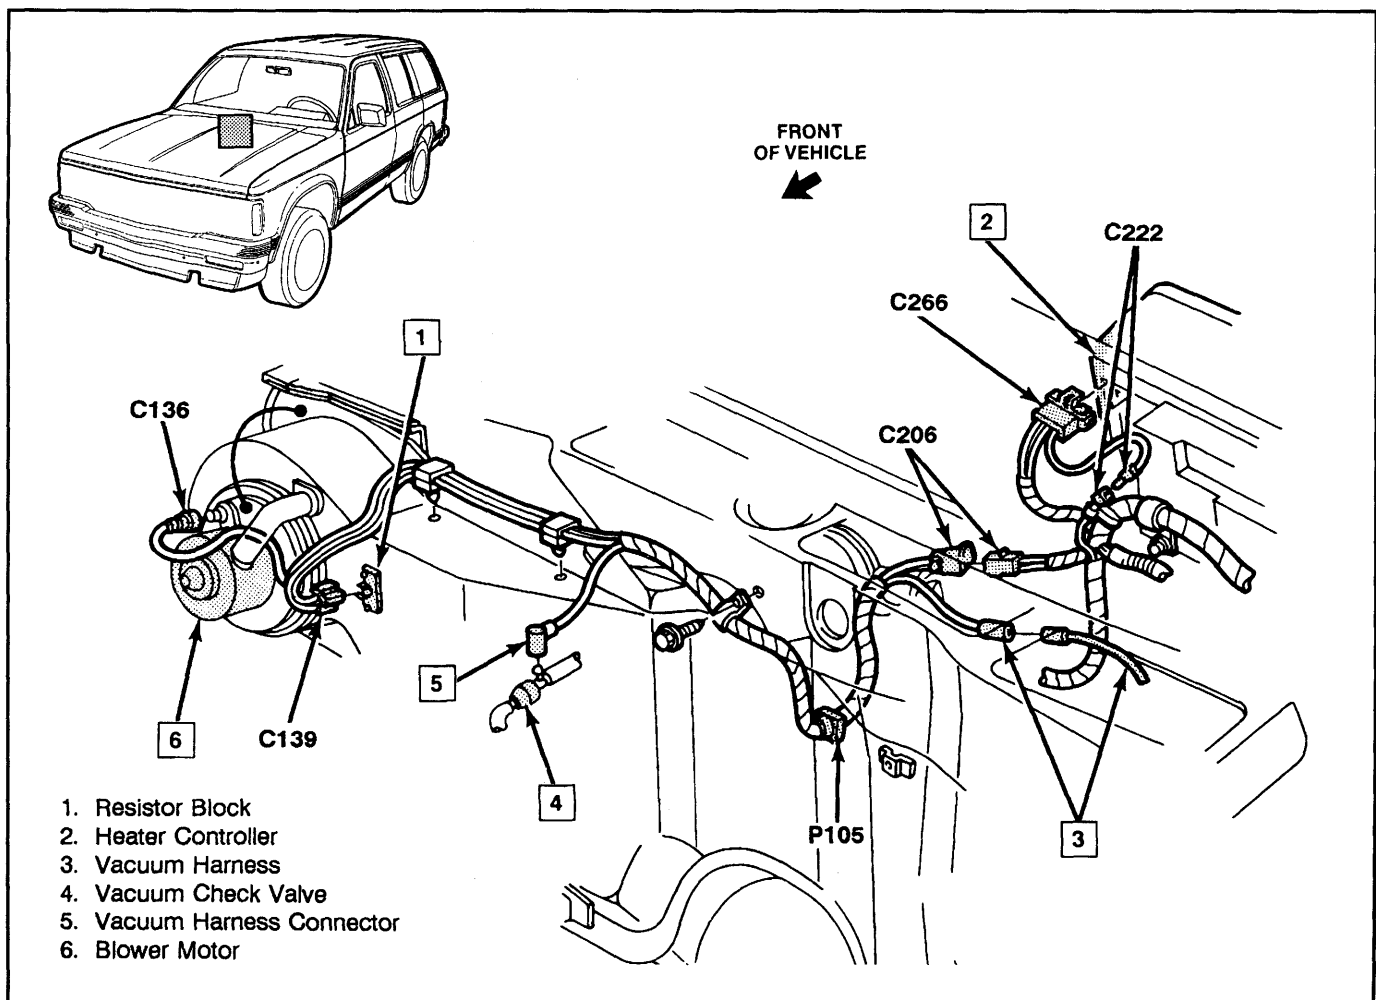

Figure 9 — Typical Component Locater View
**COMPONENT LOCATER VIEWS** – These appear within each section. Components, connectors, grounds, grommets, and splices are illustrated in their immediate environment. Figure 9 illustrates a typical component locater view.